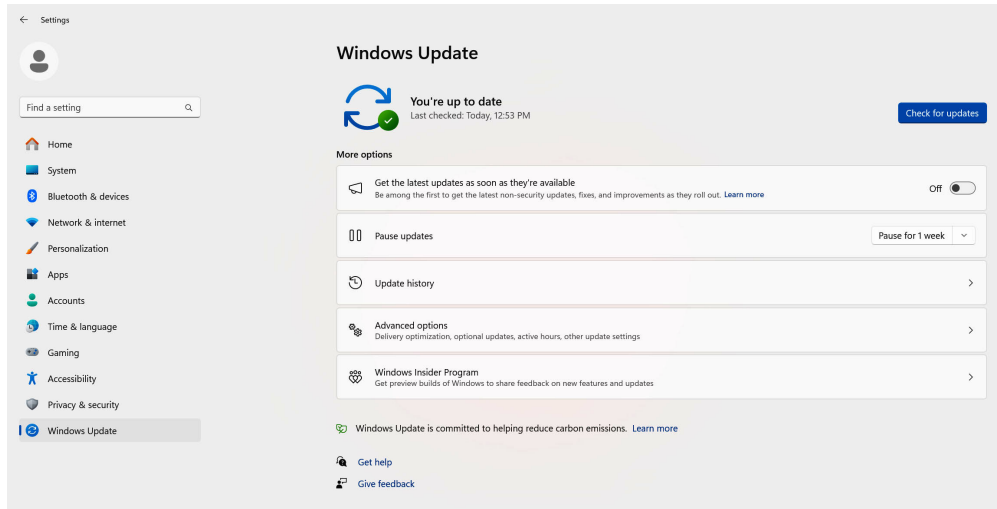

Figure 32: Windows 11 System Update Dialog
1. Navigate to *Settings* -> *Windows Update* -> *Advanced Options* (Fig 32)